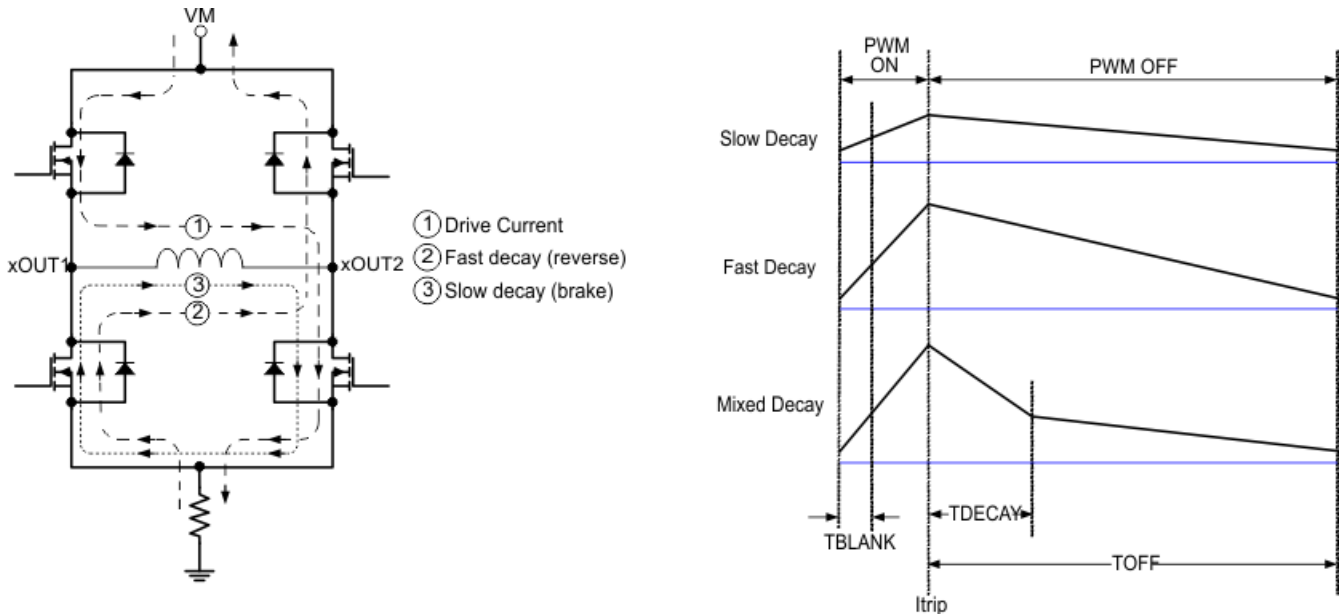

Figure 8. Decay Modes
During PWM current chopping, the H-bridge is enabled to drive through the motor winding until the PWM current chopping threshold is reached. This is shown in Figure 8, Item 1.
Once the chopping current threshold is reached, the H-bridge can operate in two different states, fast decay or slow decay. In fast decay mode, once the PWM chopping current level has been reached, the H-bridge reverses state to allow winding current to flow in a reverse direction. The opposite FETs are turned on; as the winding current approaches zero, the bridge is disabled to prevent any reverse current flow. Fast decay mode is shown in Figure 8, item 2. In slow decay mode, winding current is re-circulated by enabling both of the low-side FETs in the bridge. This is shown in Figure 8, Item 3.